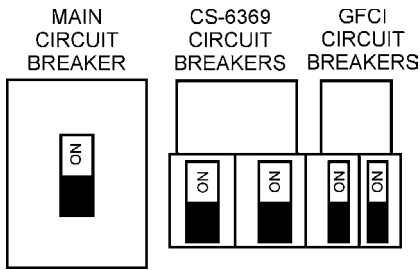

Figure 48. Main, Aux. and GFCI Circuit Breakers (ON)
10. Place the **main, GFCI, and aux.** circuit breakers in the **ON** position (Figure 48).